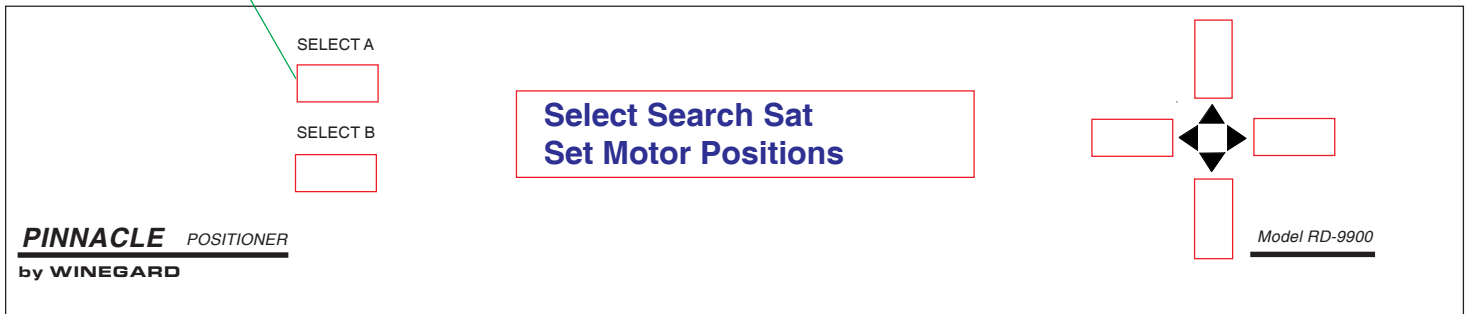

Figure 34
2. Press **[SELECT A] Select Search Sat**, see Figure 34.